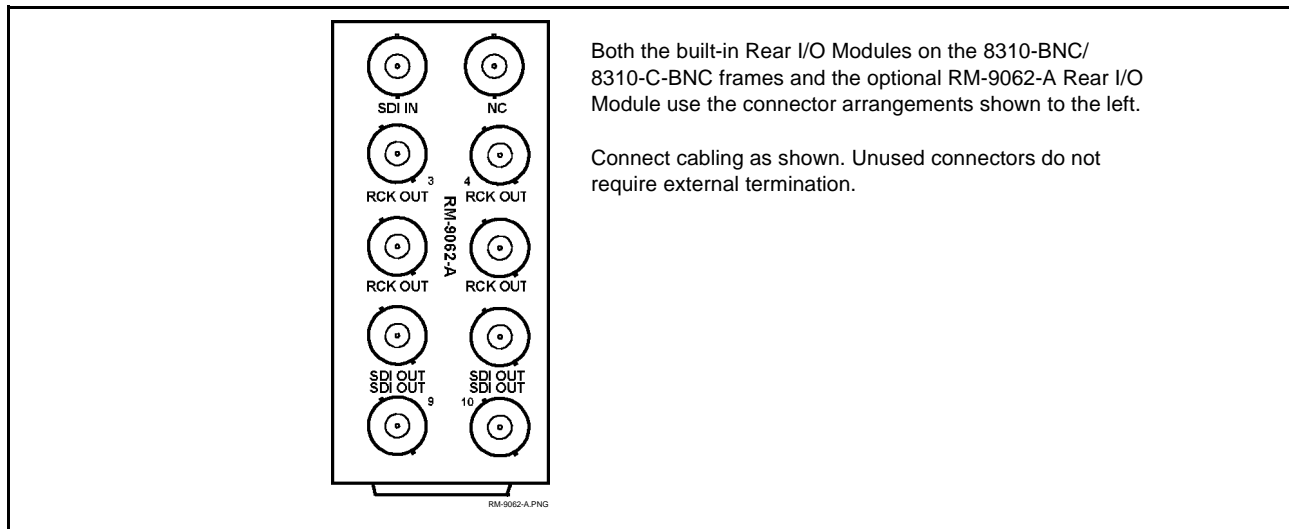

Figure 2-1 9062 Rear I/O Module Connections
8. Connect the input and output cables as shown in Figure 2-1.